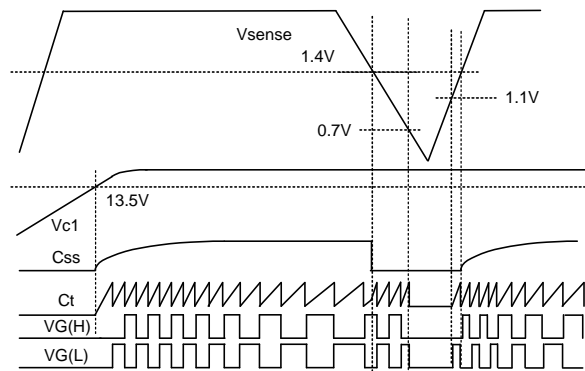

Fig.12 Vsense brown out timing diagram
Vsense terminal monitors the input voltage for halting gate drive pulse and varying the frequency. UVLO function avoids below-resonant state caused by supplying **Vbulk** remaining Vc1 is applied, brown-out (quick decrease of input voltage) or black-out (instantaneous interruption). Timing diagram of brown-out protection is shown in **Fig.12**. High side resistor of voltage divider is **RvsenseH** :greater than 3Mohm is recommended. Required minimum sink current of Vsense terminal is 1uA. Low side resistor, **RvsenseL**(init) is obtained from formula(3) and correct value of **Vbulkreset** threshold is obtained from formula(4) by using actual value of **RvsenseL**. This 1.4V threshold is for **Css** resetting without hysteresis, and 1.1V is for ON/OFF with 0.4V hysteresis. Vsense pin can be simply used for ON/OFF function.